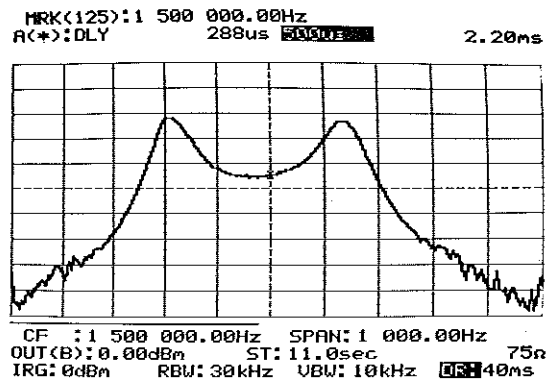

Fig. 3.20 SCALE Adjustment
- 19 Set the scale so that the waveform on the CRT is large enough to be seen easily. (Fig. 3.20)